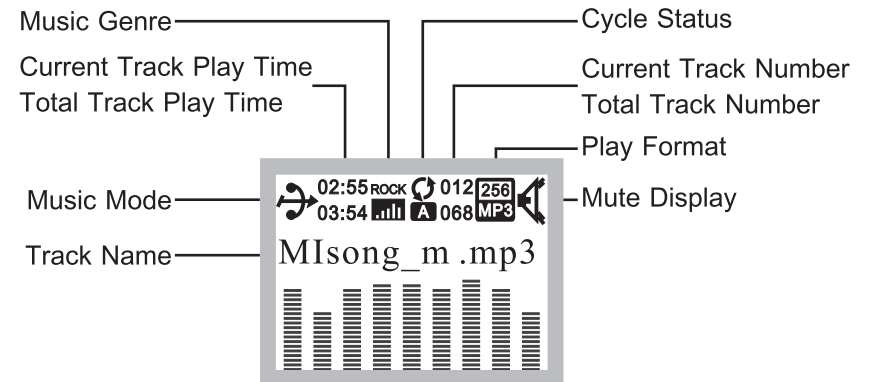

Fig. 6
(A) MP3 Player Display Screen, Fig. 6: